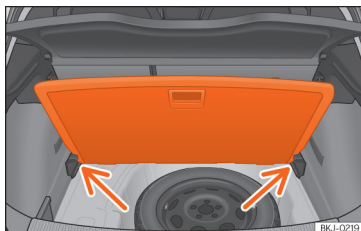

Fig. 119 Variable luggage compartment floor: inclined position.
- Rest the floor on its housings »» **Fig. 119** (arrows).